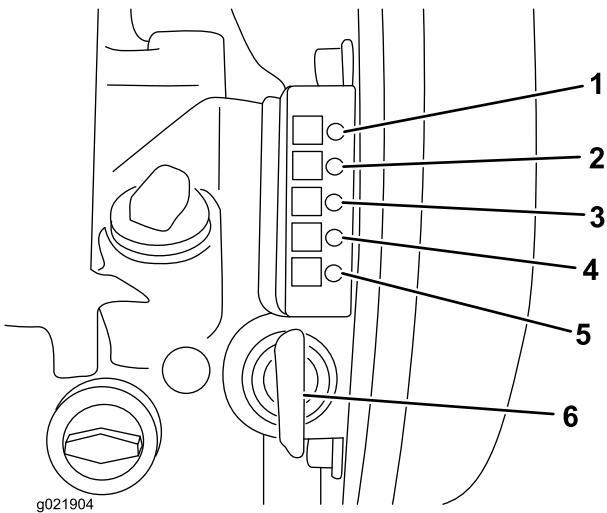

Figure 13
- 2. Insert the key into the starter switch and rotate it clockwise to start the engine (Figure 13).
- 3. **Model 68075 only:** Rotate the key counterclockwise to the Off position (all indicator lamps will turn off) and remove key from the starter switch (Figure 13).